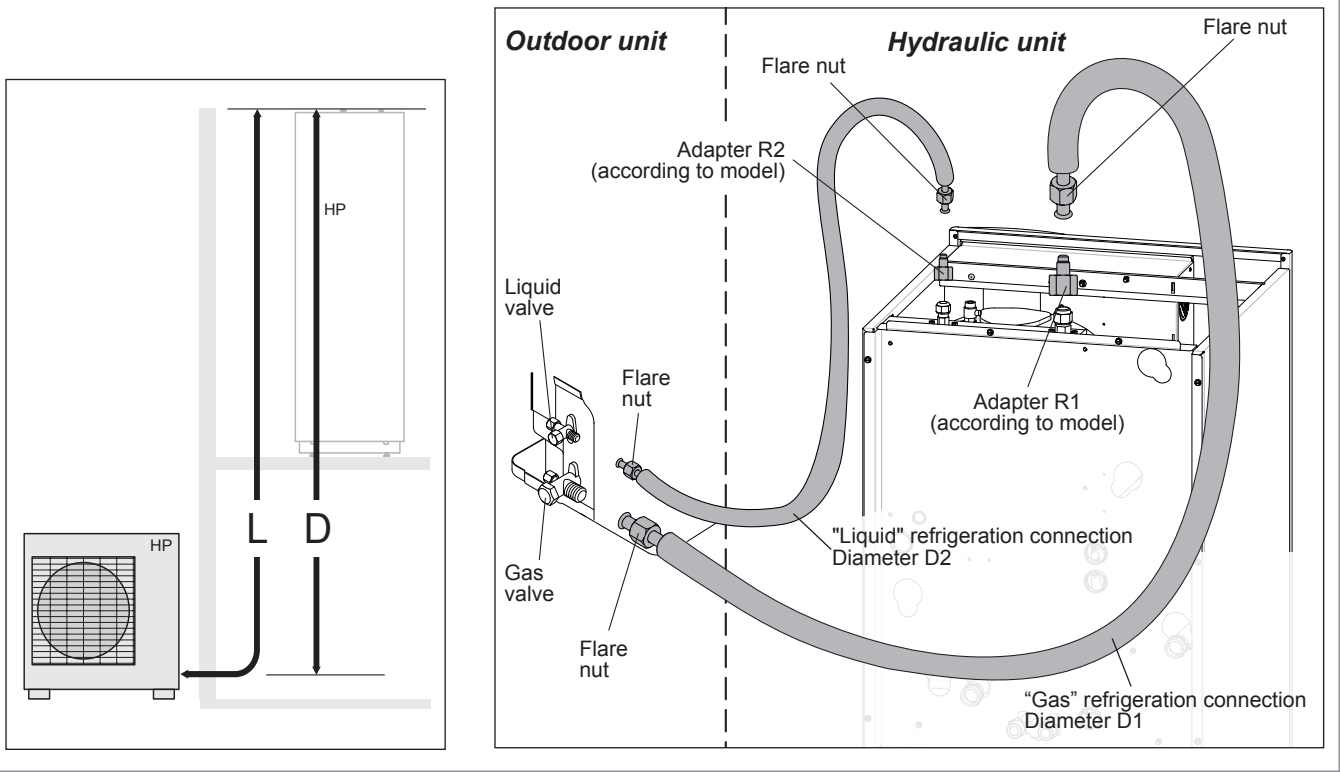

figure 20 - Connecting the flared connections (Pipe diameters and permissible lengths)
- Depending on the case, connect an adapter (reducer) 1/4"- 3/8" or 1/2"- 5/8" (see figure 20, page 19).